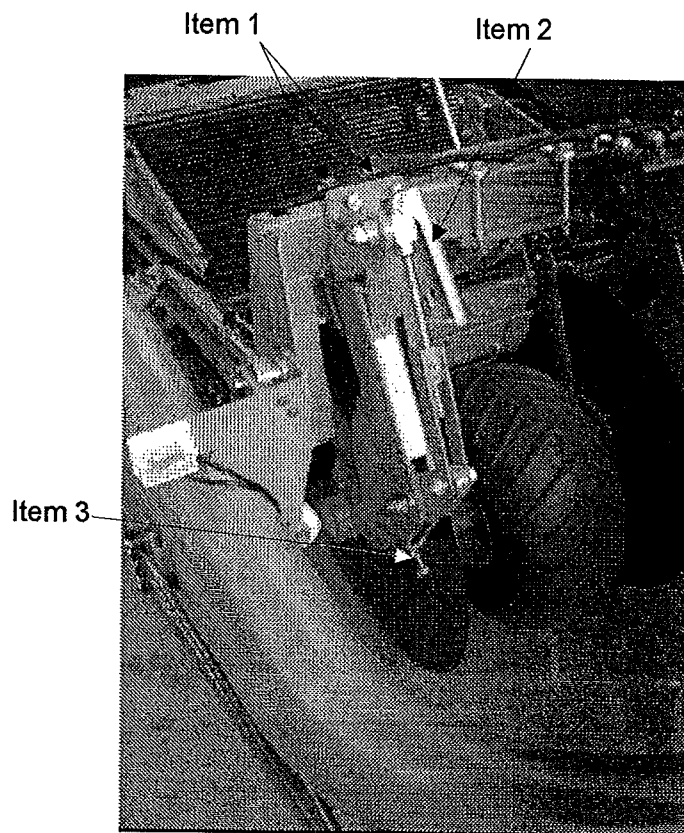

Fig 6.8
Each disc assembly is attached to a common crossbeam. The clamp bolts should be loosened to allow the disc to be moved sideways to the required position (fig 6.8 item 1). When the shares have been correctly set, the discs should be adjusted to be approximately 20 mm clear of the edge of the share blade. All discs should be adjusted equally. Tighten all disc mountings when adjustments are complete.
Disc depth adjustment is controlled by a set stud under the disc arm (fig 6.8 item 3). Turning the set stud anti clockwise increases the depth and turning clockwise reduces the depth.
The disc swing arm tension is controlled by a torsion block, which applies some downward pressure to ensure a clean cut, but allows some movement if the disc runs over an obstacle. Tension should not be adjusted too high to cause the discs to act as wheels and partially support the floating chassis. Adjustment is carried out by turning the handle at the top of the disc mounting (see fig 6.8 item 2). Turning the handle clockwise increases the tension and turning clockwise reduces the tension.